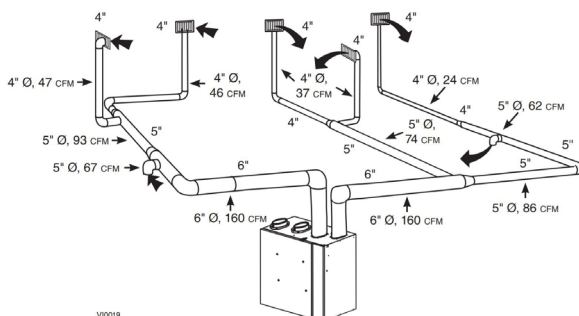

Figure 1. Example of well-designed ductwork (Image from Venmar X24/X30 Installation Manual)
- Ventilation flows are typically much lower than what's delivered through furnace ducts, so using them can result in poor control over ventilation air flows. Use dedicated ventilation ductwork as shown in Figure 1, rather than tying into heating or cooling ducts. When that's not possible, at least try to provide dedicated ductwork for the exhaust side of the ventilation system. If using the heating/cooling ducts, follow manufacturer recommendations and interlock the HRV/ERV with the heating/cooling air handler.